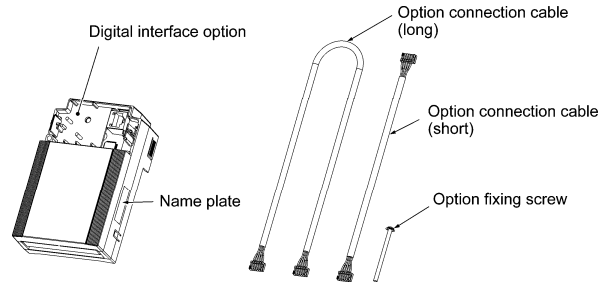

Figure 1.1 Digital Interface Option and Accessories
- (1) A digital interface option and the following accessories are contained in the package. (See Figure 1.1.)
- (2) The interface option and accessories have not been damaged during transportation—there should be no dents or parts missing.
- (3) The model name "OPC-E1-DIO" is printed on the nameplate attached to the right side of the interface option. (See Figure 1.1.)